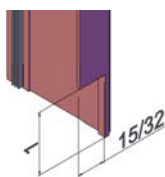

Fig. 13 - Jamb Receptor Closure at Sill
9) The jamb closure must be coped at the sill to clear the sub sill and shim stack. For a 1/4" sealant allowance the cope needs to be 1" tall. See Fig. 13